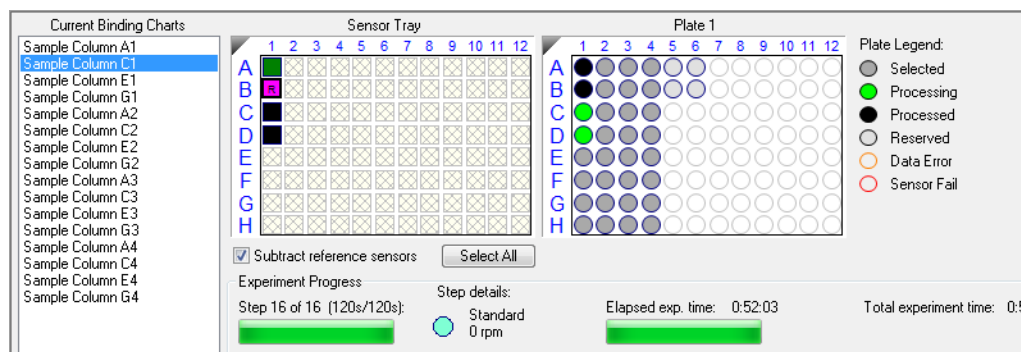

Figure 5-58: Subtract Reference Sensors check box in the Runtime Binding Chart
The selected biosensor shows with an **R** in the **Sensors to Chart** list and **Sensor Tray** (see Figure 5-58).
2. Click the **Subtract reference sensors** check box, see Figure 5-58.